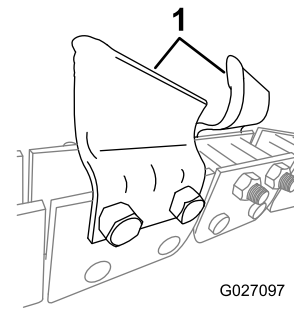

Figure 37
- **Cupped teeth (Figure 37)** are the best for cutting through light to medium soil. The cupped design of the tooth cuts through the soil and then moves it up and out of the trench.